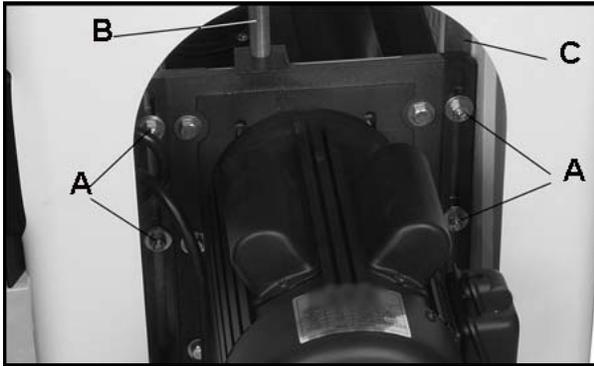

Figure 22
1. Tighten all four lock nuts (A, Figure 22) and then loosen them 1/8 to 1/4 turn. If the lock nuts are set too tight, height control will not operate easily. If the lock nuts are too loose, excessive deflection or binding may occur.
2. Thoroughly lubricate the mating surfaces of the motor mount slide (C, Figure 22), and the height adjustment screw (B, Figure 22).